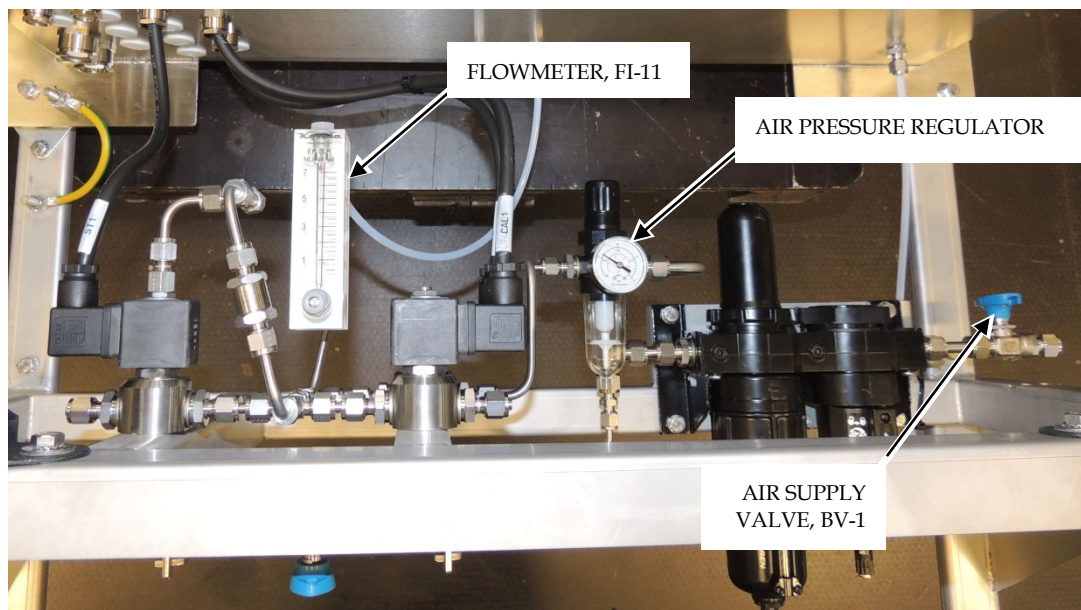

Figure 9 Flowmeter, regulator and air supply valve under AC
**Flowmeters** (refer to Figure 8 and Figure 9):
- 1) AC (analyser cabinet): Turn on the circuit breaker (item 2 and 4 on dwg 1003).
- 2) AC: Open valve, BV-1, on air supply (under AC). Refer to Figure 9.
- 8) AC: Make adjustment on flowmeter, FI-11, under AC to approx. 1.0 l/min when stream 1 is selected. Refer to Figure 9.
- 13) AC: Adjust the air supply pressure regulator under AC (refer to Figure 9) until flowmeter, FI-11, under AC is 1.0 l/min.